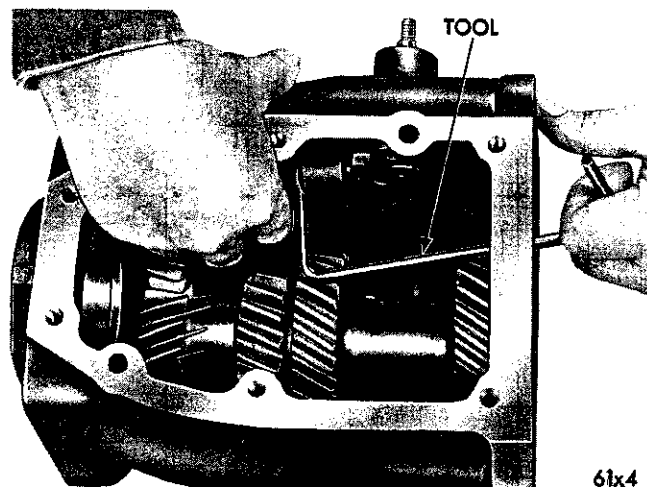

Fig. 9—Installing Detent Balls
(1) Install two new lever shaft seals in the transmission case, using seal driver Tool C-3650.
(2) Install the 2nd and 3rd speed lever shaft in the bore provided in the transmission case.
(3) Install the 2nd and 3rd speed lever shaft lock pin in the hole in the case boss (after coating with a suitable sealer) starting the pin at the top of the hole and driving it downward. While the lever shaft lock pins must be driven in firmly to prevent leakage or loss of the pin, some caution must be exercised to avoid driving the pin in too tightly, causing distortion or mushrooming of the pin. This could result in much difficulty if it is necessary to remove the pin at a later date.
(4) Place the interlock parts in position in the case in the following order: ball, sleeve, spring, pin and ball.
(5) While using the detent ball installer Tool C-3765, as shown in Figure 9, to depress the detent ball against the spring tension, push the low and reverse lever shaft firmly into position so it engages the detent ball.